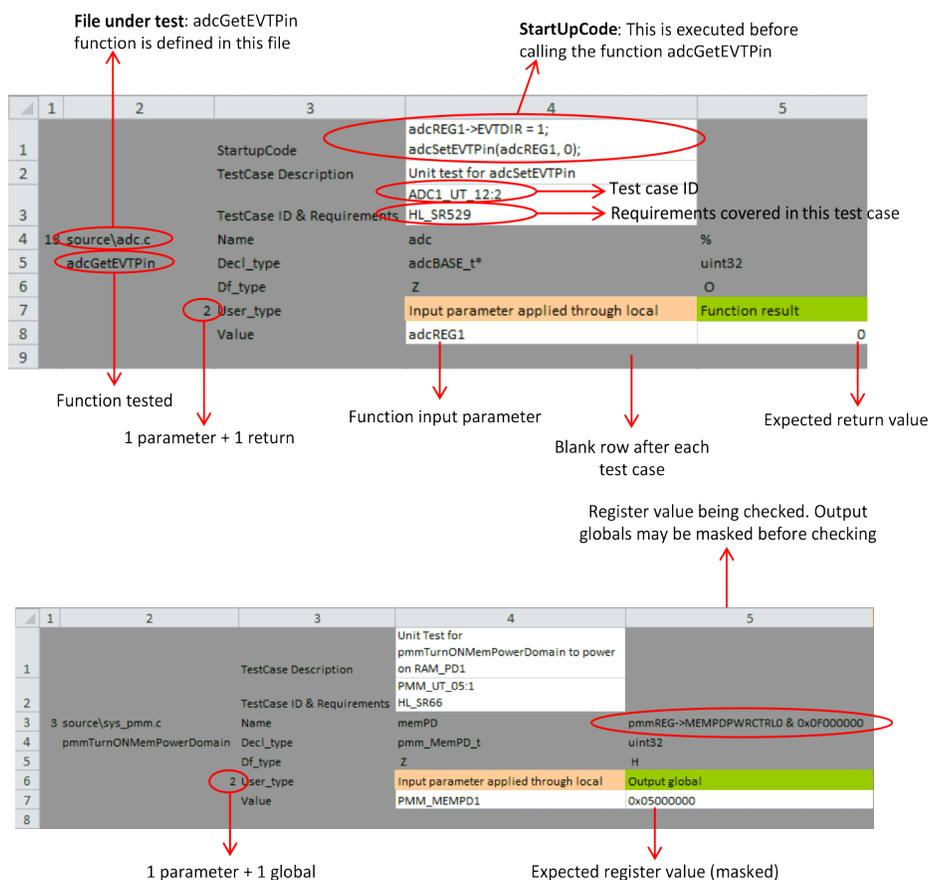

Figure 16. Examples of a Test Case
- The total number of parameters of the test case (that includes the function input parameters, return value, global variables checked) must be defined for each test case as shown in Figure 16 Df_type information is used by LDRA tool to understand the type of input and output parameters, for example if the parameter is a global or local variable. Commonly used Df_Types are
Figure 16 shows a few examples of a test case.